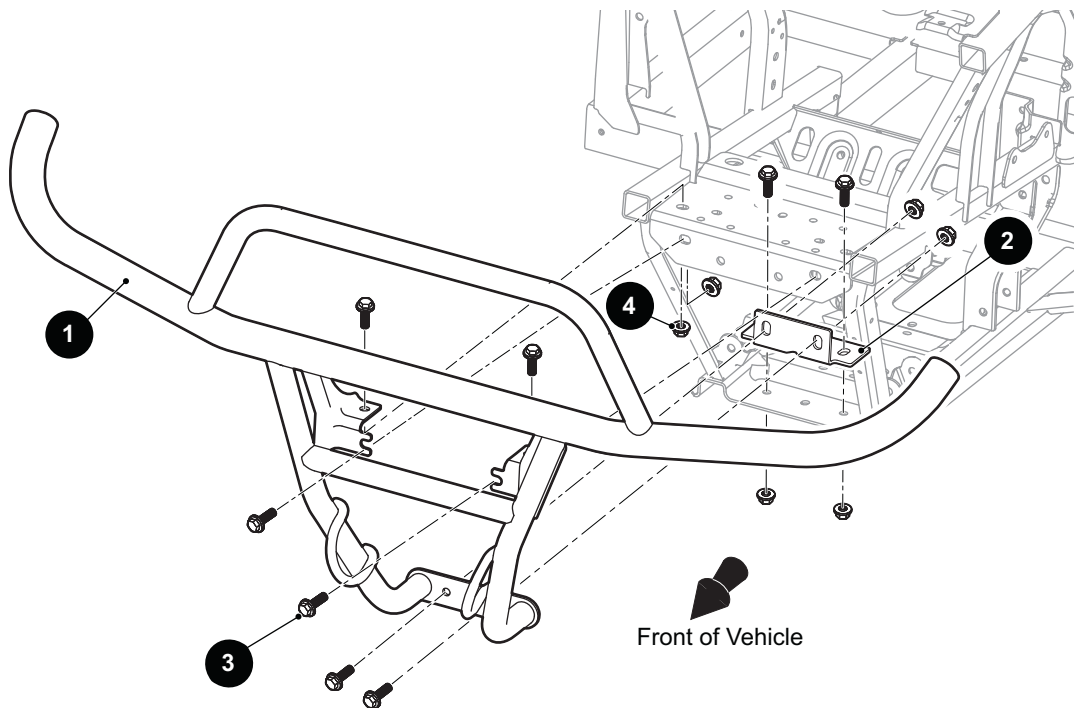

Fig. 3 Standard Brush Guard
1. Remove two bolts (3) and nuts (4) that secure the brush guard (1) to the bracket (2) (See Fig. 3).
2. Remove four bolts (3) and nuts (4) that secure the brush guard (1) to the frame.